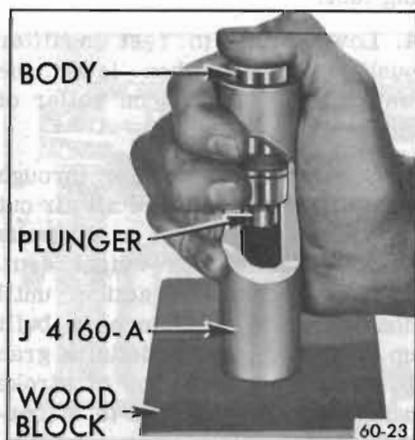

Figure 60-117—Removing Plunger with J-4160-A
6. If a plunger sticks in lifter body, place lifter in large end of Plunger Remover J-4160-A, with plunger inward. While holding lifter with thumb, rap the open end of remover against a block of wood with just enough force to jar the plunger from body. See Figure 60-117.